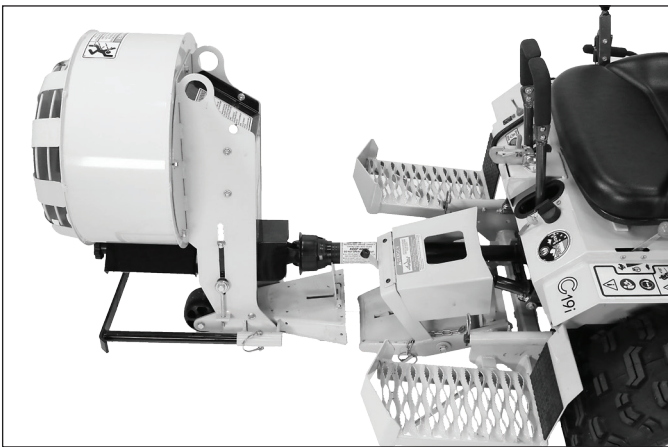
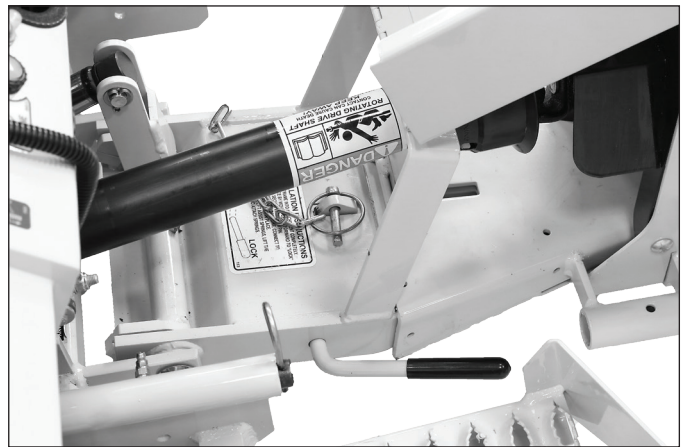

Figure 1.1
Figure 1.2
1. Remove the belt guard from the debris blower housing by removing the four (4) carriage bolts securing it to the housing.
6. Drive the tractor just in front of the debris blower, making sure the input shaft goes through the male quick hitch and under the PTO cover (figure 1.1). Connect the PTO shaft and input shaft. Insert the male quick hitch section of the implement hitch into the female hitch of the debris blower and lock in place by moving the hitch locking lever to the **LOCKED** position (figure 1.2). Refer to the **Hitch Locking Lever** instructions in the **Operation** section of this manual.